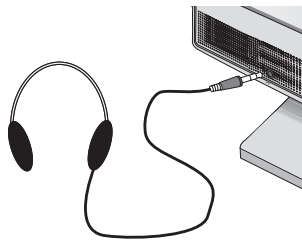

Figure E.1
6. Headphones may be connected to the "Headphones" output on the front of the monitor's bezel marked "H" (**Figure E.1**). While the headphones are connected, the sound from the speakers will be disabled. Headphones can be purchased from your local electronics store.